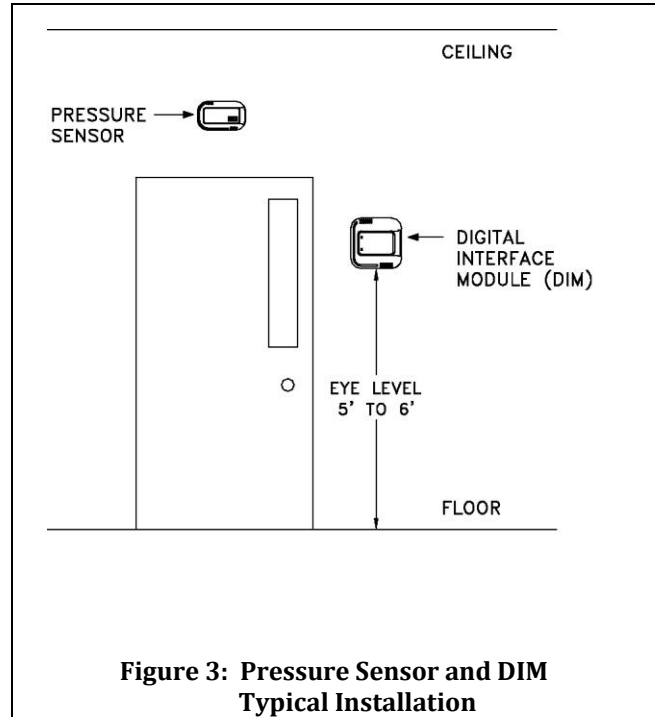

Figure 3: Pressure Sensor and DIM Typical Installation
The pressure sensor (P/N 800326) is typically installed above the main entrance to the laboratory (Figure 3).
- 1) Determine pressure sensor location (Figures 3, 4). Pressure sensor typically mounts in the reference space, and the dummy housing mounts in the laboratory.